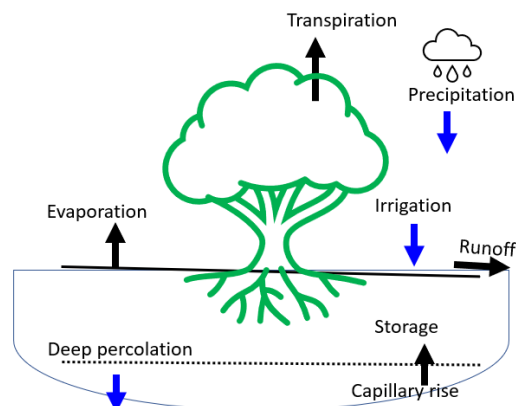

Figure 1: Evapotranspiration process and soil water balance
Many growers are using calculated Evapotranspiration (ET_C) reports available through University of California Cooperative Extension county-based offices. This method is based on replacing the amount of water used by the crop since the last irrigation. ET_C is the losses from soil (evaporation) and canopy (transpiration) (Figure 1) and is calculated by multiplying reference crop ET_o and crop coefficient (K) [$ET_C = ET_o \times K_C$]. Studies have found that ET is linked to how much ground or canopy they cover. For example, crops with full canopy coverage, like alfalfa fields, have the highest ET rates, slightly lower than if there was just water sitting out in the open. Scientists have used this information to create a weather measurement system. When this system is set up in a grassy area that is well-watered, it can accurately estimate the maximum daily ET. This estimation, called ET_o , is reported daily by weather stations. K_C is the specific crop coefficient for a given stage of growth. There is a chance to over-irrigate using this method since K_C values are outdated and used for different management practices and different rootstocks than what we currently have. This can be avoided by using some sensors currently available in the market to measure actual ET in your orchard. We will discuss how to adjust ET reports for young trees. After that, you can use the following equations to calculate application rate, irrigation set time, and applied water: